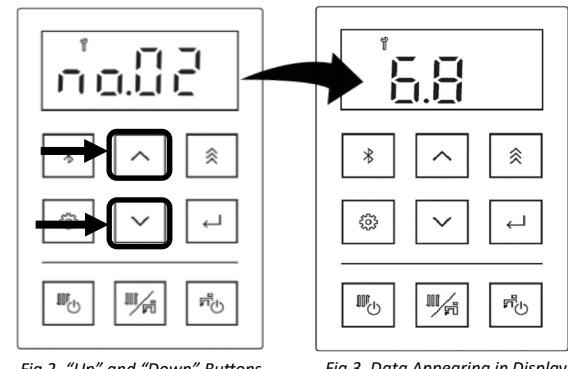

Fig 2. "Up" and "Down" Buttons
3. Use the (Up) and (Down) buttons (Fig 2) to scroll to the desired information described in Table 1(A), Performance Data.